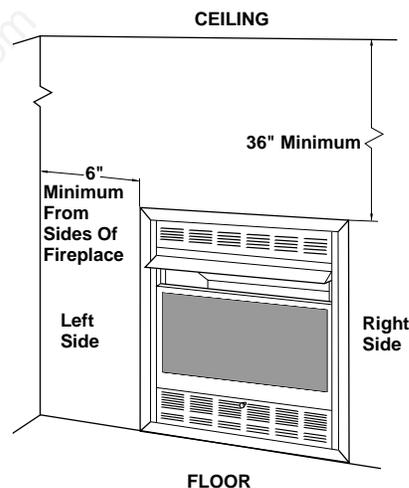

Figure 6 - Mounting Clearances As Viewed From Front of Fireplace Shown Built In The Wall
**WARNING:** Maintain the minimum clearances shown in Figures 6 and 7. If you can, provide greater clearances from floor, ceiling, and joining wall.